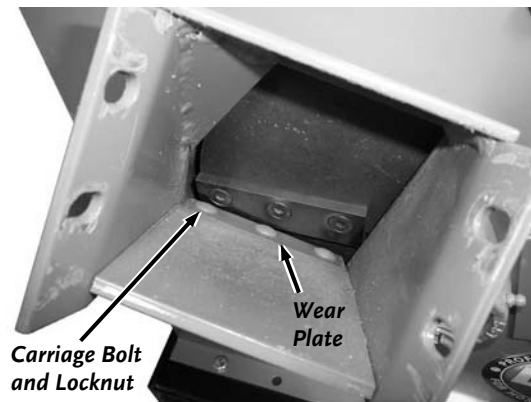

Figure 29
1. To adjust the Wear Plate Gap, loosen the three Nuts on the Carriage Bolts with a 7/16" wrench just enough so the Wear Plate will move but still have a slight resistance. Now you can slide the Wear Plate up or down (in or out) to achieve the correct gap setting (**Figure 29 and 30**).